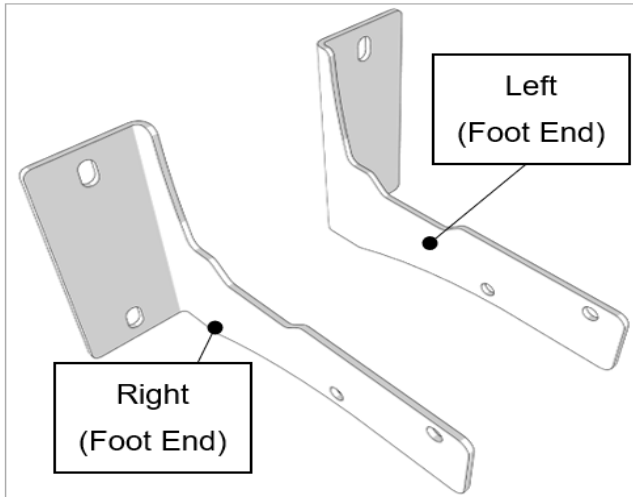

Figure 8.4
3. Identify left and right handed versions using Figure 8.4 below.